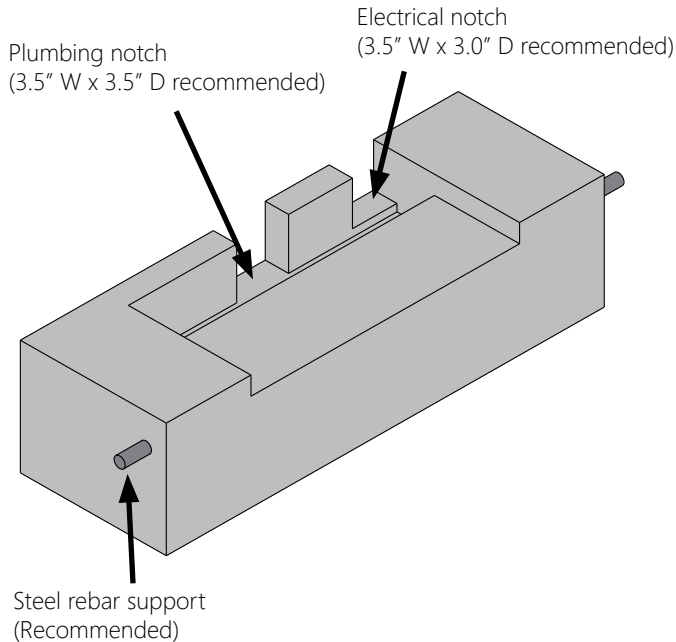

Figure 3: Concrete Forming Guide (12"-36")
- When forming the area for installation, note that plumbing and electrical notches must be provided (Figure 3 and 4).